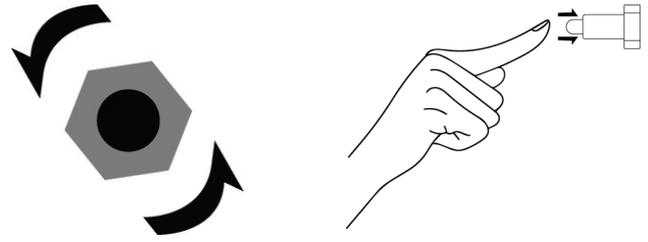

Fig 2.
- Once the cabinet has cooled down, turn the knob anti-clockwise (Fig 2).